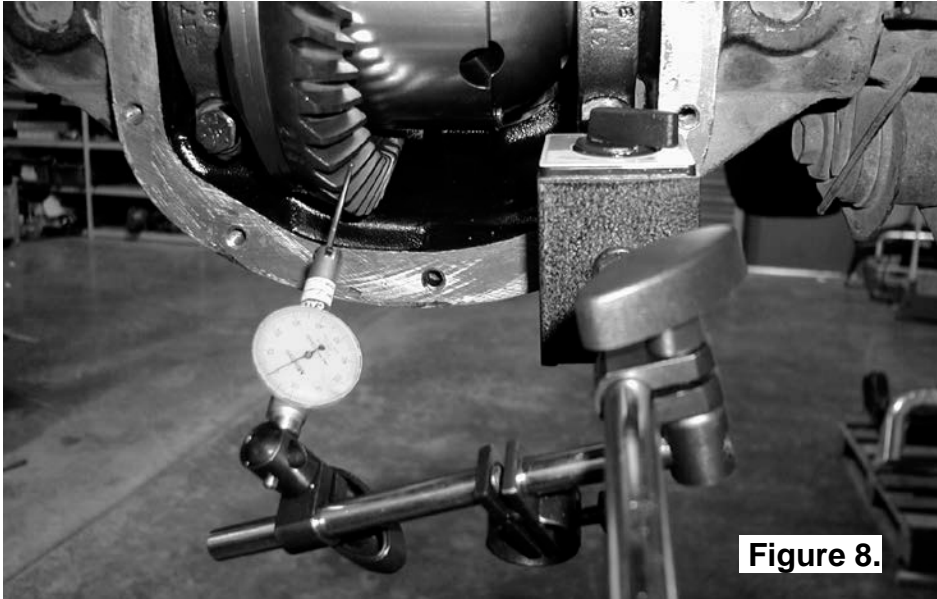

Figure 8.
- Set a depth indicator on one of the ring gear teeth (Fig.8.).